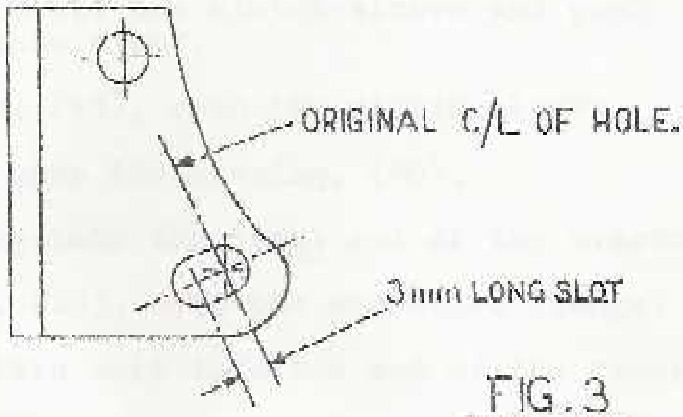

FIG. 3
- 8. Remove handbrake cable bracket at speedometer drive housing and modify as shown, Fig 3.